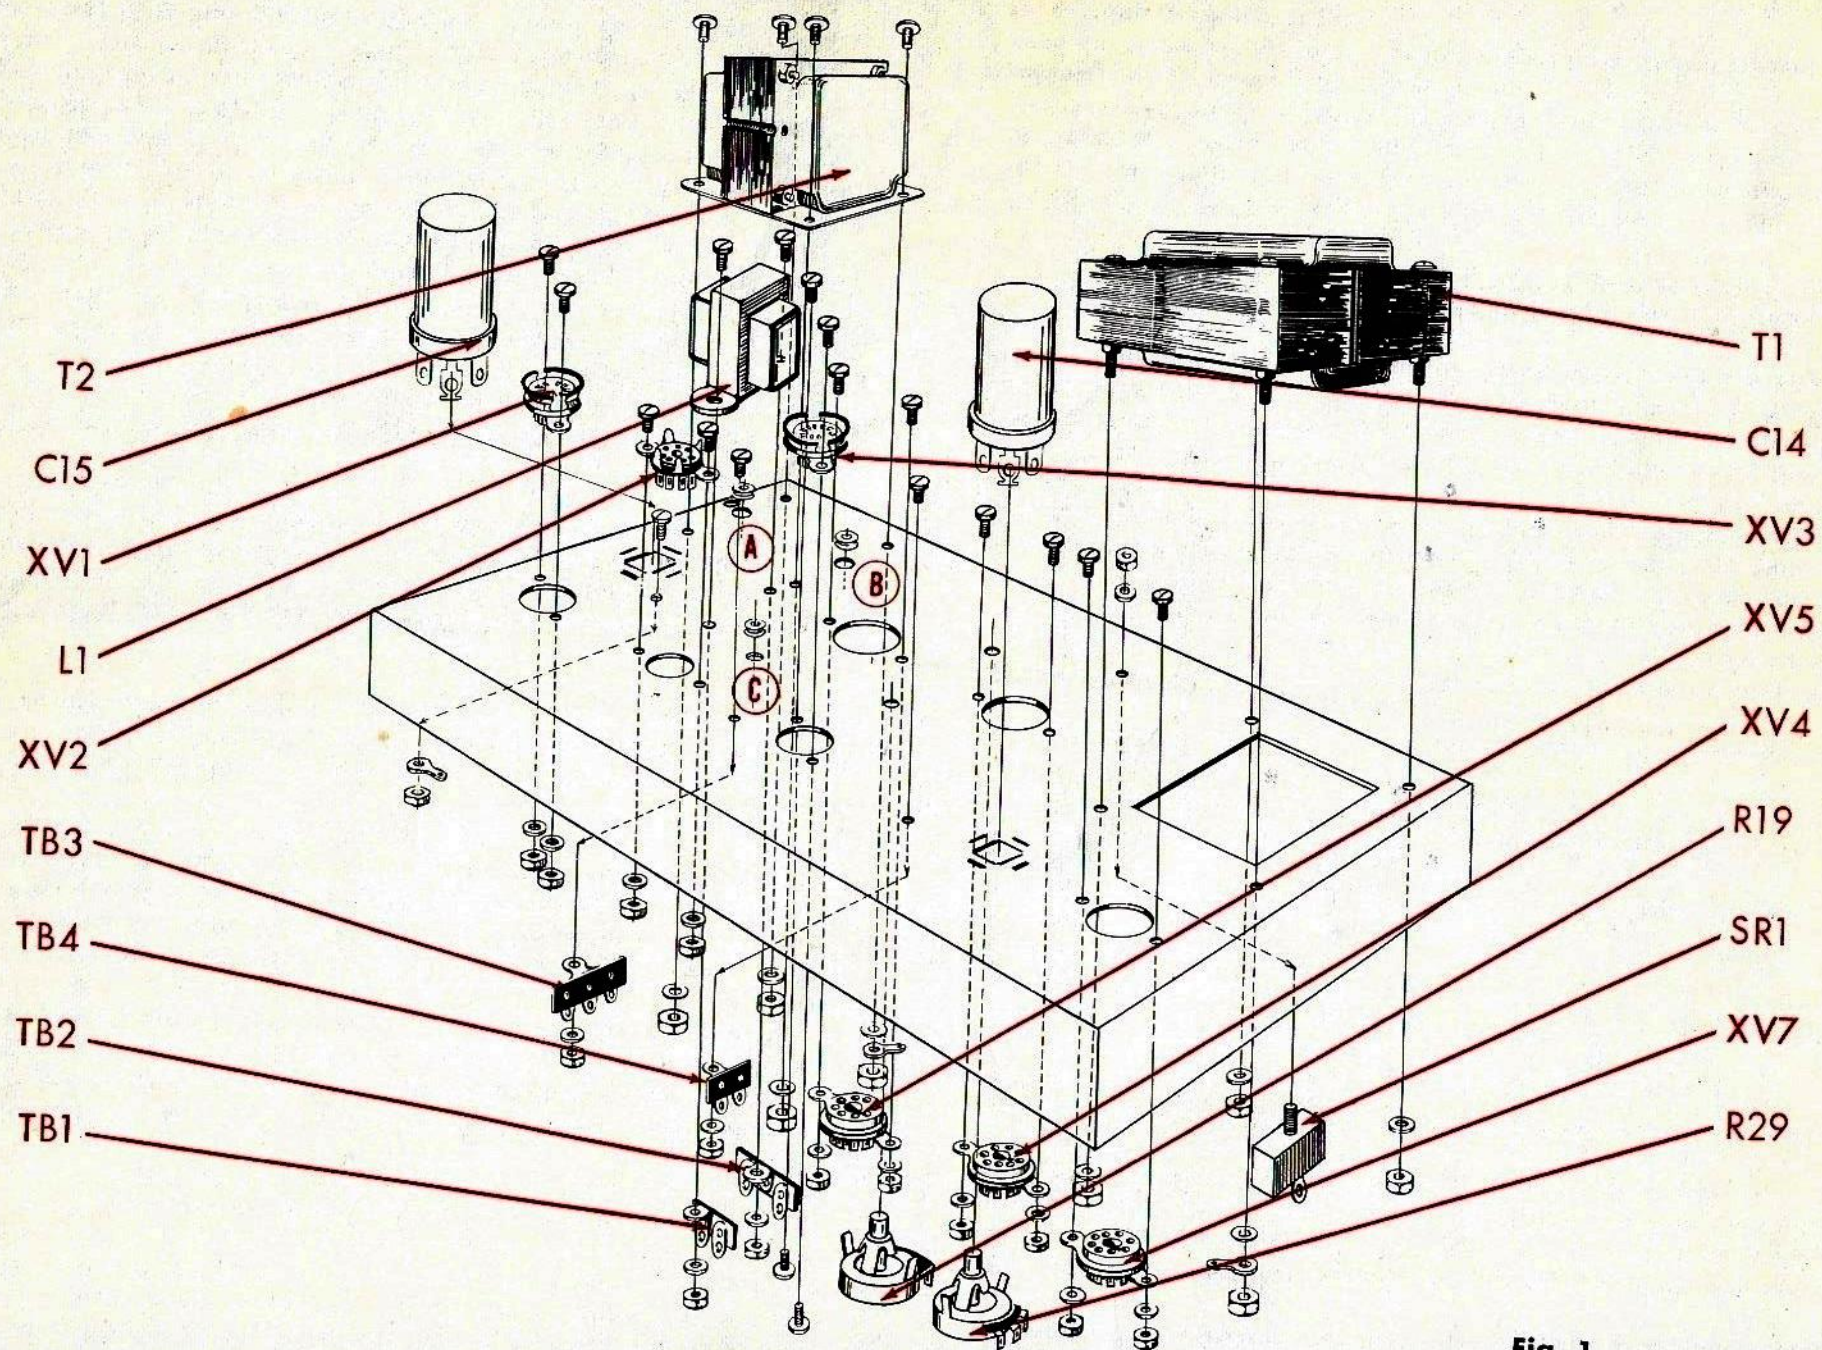
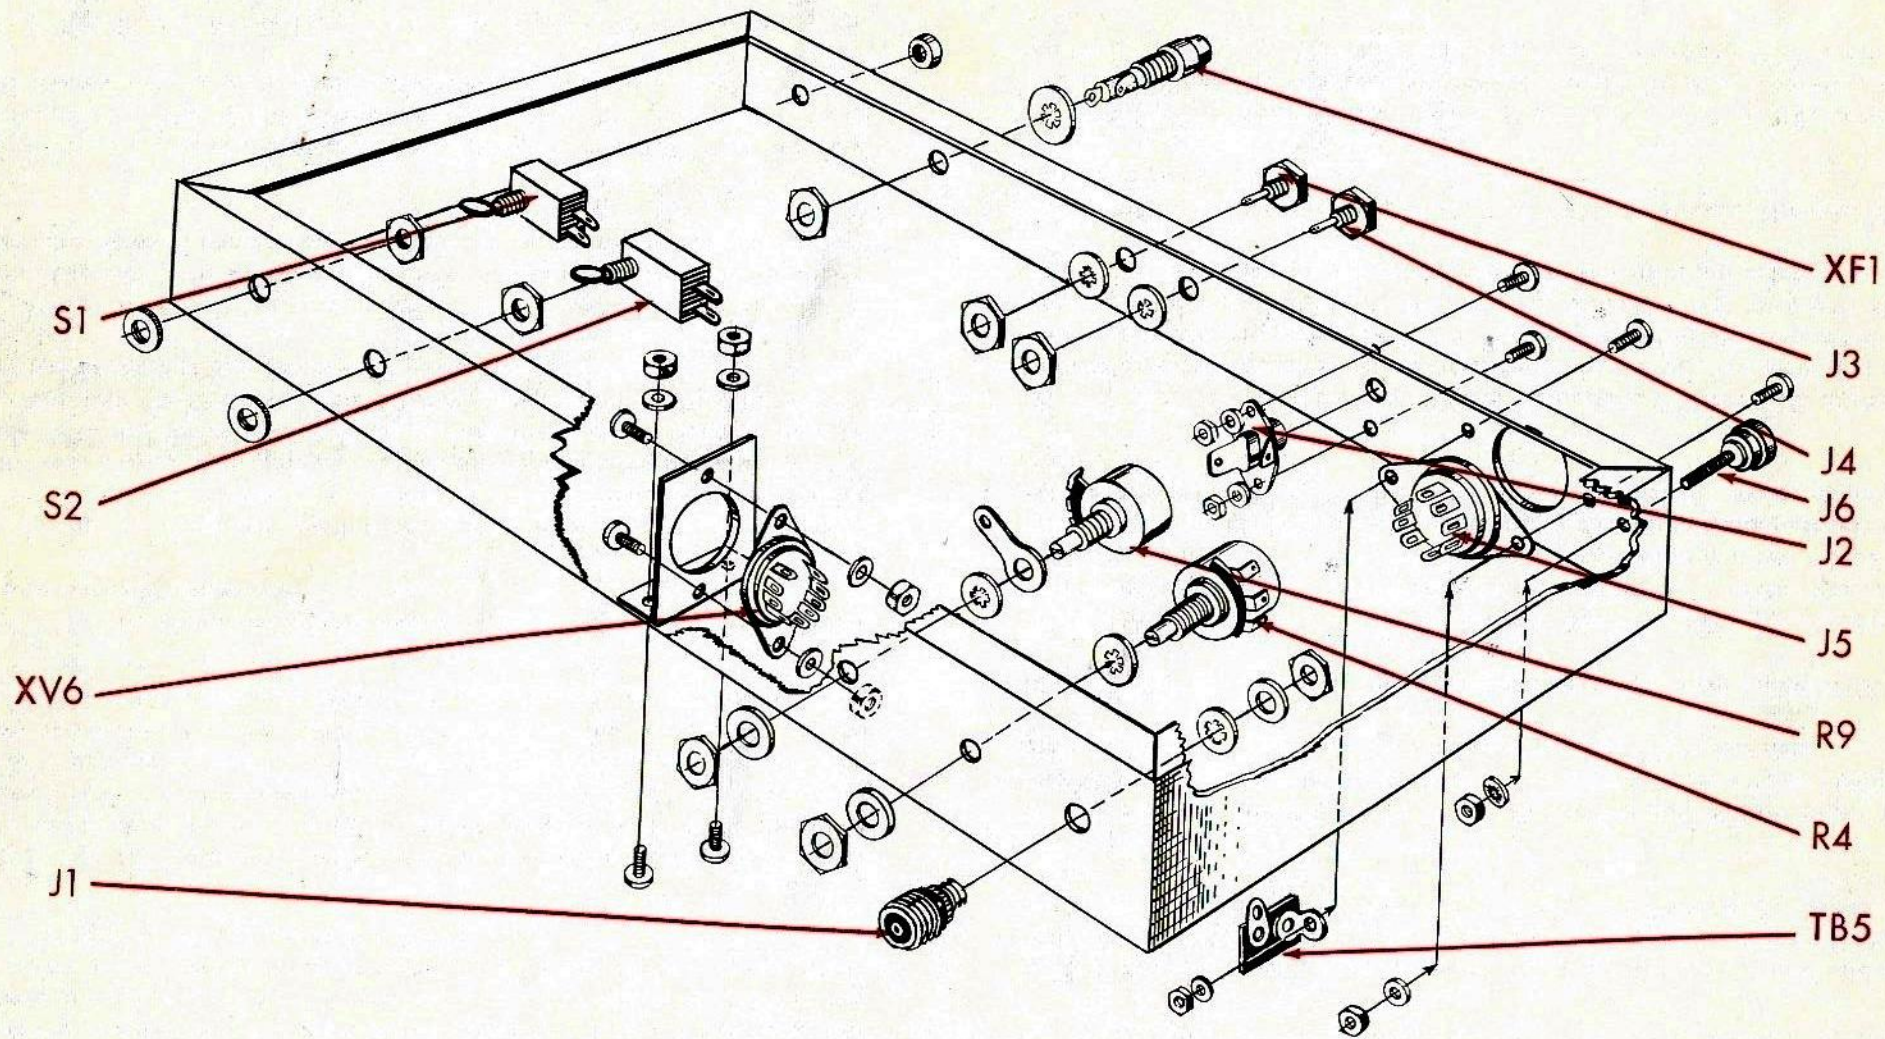
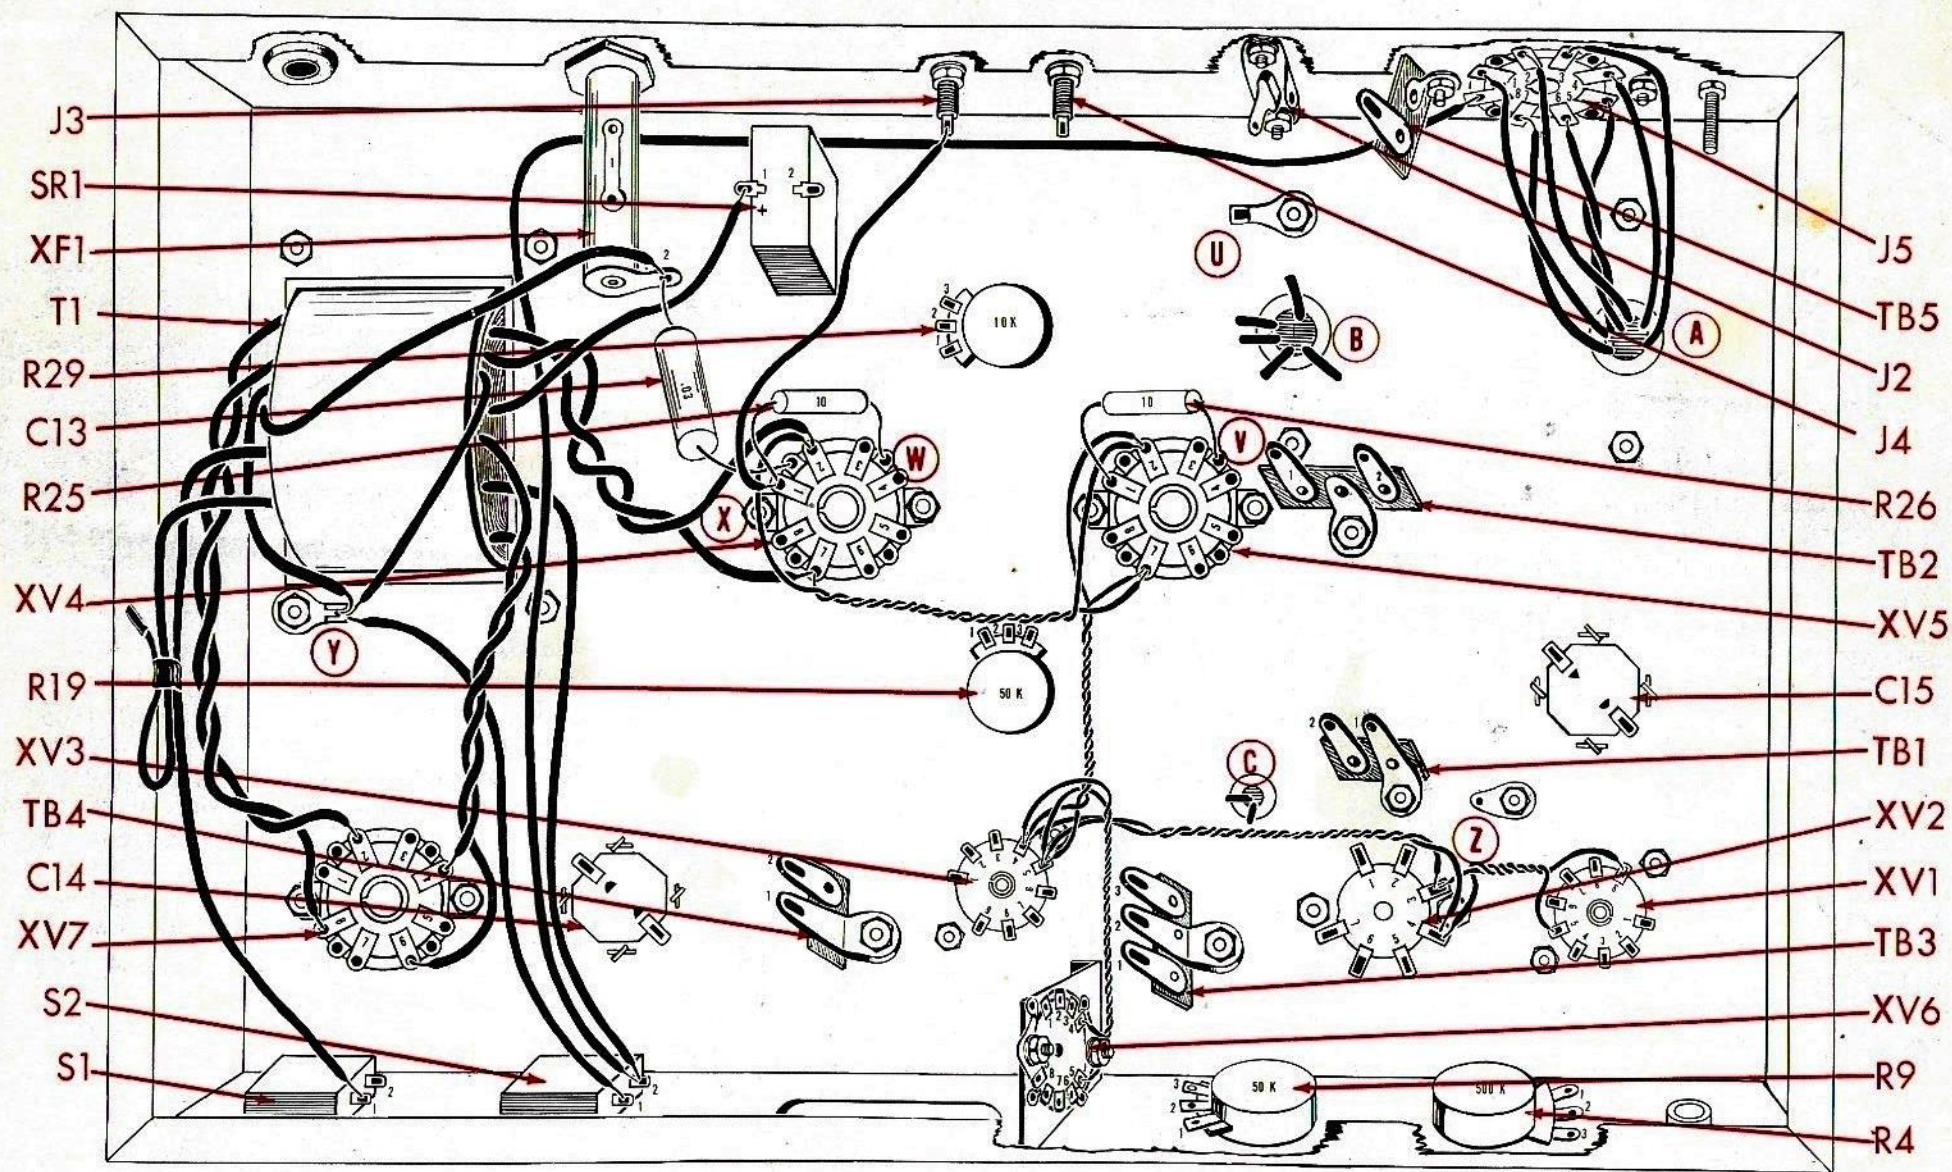

Fig. 1
Fig. 2
Fig. 3
1. ( ) Fig. 1. On power transformer T1, (30029), cut both yellow leads to 6", red leads to 5", the green leads to 3", the blue leads to 4", the black lead to 4 1/4", the black-green and the black-red to 6 1/2", the red-yellow to 4 3/4" and the white lead to 3". Mount the transformer as shown, with the yellow leads closest to the side of the chassis. Use four #8 lockwashers and four #8-32 hex nuts. Under one of the hex nuts mount a #8 ground lug.
2. ( ) Fig. 1. Mount one 5/8" grommet in hole "A" in the top of the chassis and a second 5/8" grommet in hole "B".
3. ( ) Fig. 1. On output transformer T2, cut the red lead to 8", the brown lead to 6" and all other leads to 3". Mount the transformer as shown, pushing the red, brown, blue, green and black leads through the grommet mounted in hole "B", and the remaining leads through the grommet mounted in hole "A". Use four #8-32 screws, four #8 lockwashers and four #8-32 hex nuts. Under one of the hex nuts mount a #8 ground lug.
4. ( ) Fig. 1. Mount selenium rectifier SR1, from below the chassis, as shown. Use one #6 lockwasher and one #6-32 hex nut. Orient the rectifier so that plus terminal (marked on rectifier) is closest to the power transformer, T1.
5. ( ) Fig. 1. Mount the octal sockets, XV4, XV5 and XV7, from below the chassis, as shown. Note orientation of center key from figure 3. Use two #6-32 screws, two #6 lockwashers and two #6-32 hex nuts on each.
6. ( ) Fig. 1. Mount the 10K snap-in type pot, R29, between tube sockets XV4 and XV5, towards the rear of the chassis, as shown. Push the pot into the center hole and the two tabs at the side into the two smaller outside holes. Press firmly against the pot towards the chassis until a click is heard and the pot is secured to the chassis. (see fig. 3 for location of lugs)
7. ( ) Fig. 1. Similar to the above, in step 6, mount the 50K snap in type pot, R19. This is located between sockets XV4 and XV5 towards the front of the chassis.
8. ( ) Fig. 1. Mount the nine pin miniature tube sockets with shield support, XV1 and XV3, from the top of the chassis, as shown. Note orientation in Fig. 3. Use two #4-40 screws, two #4 lockwashers and two #4-40 hex nuts on each.
9. ( ) Fig. 1. Mount the seven pin miniature tube socket, with shield support XV2, from the top of the chassis, as shown. Note orientation in Fig. 3. Use two #4-40 screws, two #4 lockwashers and two #4-40 hex nuts.
10. ( ) Fig. 1. Mount a 1/4" grommet in hole "C", near socket XV2.
11. ( ) Fig. 1. On choke L1, cut one lead to 3 1/2" and the second lead to 4". Push these leads through the grommet mounted in hole "C". Mount the choke as shown, using two #6-32 screws, two #6 lockwashers and two #6-32 hex nuts. Under one of the lockwashers, nearest XV2, mount a one post left with ground terminal strip, TB1. Under the second lockwasher, mount a two post terminal strip, TB2.
12. ( ) Fig. 1. Mount electrolytic can capacitors, C14 and C15, as shown. Note orientation of half moon and triangle in figure 3. The mounting taps are inserted into the slots provided on the chassis and twisted somewhat less than a quarter turn. DO NOT twist the taps excessively or they will shear off. Solder one mounting tab to the chassis at the mounting point.
13. ( ) Fig. 1. Mount ground lug "Z" near XV1, as shown. Use one #6-32 screw and one #6-32 hex nut.
14. ( ) Fig. 1. Mount two post with ground terminal strip, TB3 between XV2 and XV3 and on post right with ground terminal strip, TB4 between XV3 and C14. Use one #6-32 screw, one #6 lockwasher and one #6-32 hex nut on each.
1. ( ) Fig. 2. On the tube bracket, shown mounted, mount a nine pin miniature tube socket, XV6, as shown. Use two #4-40 screws, two #4 lockwashers and two #4-40 hex nuts.
2. ( ) Fig. 2. Mount the tube bracket, as shown. Use two #6-32 screws, two #6 lockwashers and two #6-32 hex nuts. Tighten these screws slightly, so that bracket can be adjusted after the tube is inserted in its socket.
3. ( ) Fig. 2. Mount 500K pot R4 and 50K pot, R9, as shown. Use one 3/8 lockwasher, one 3/8 flatwasher and one 3/8 hex nut on each. In addition, R9 gets a 3/8 ground lug mounted between the pot and the lockwasher. Orient the lug so that it is opposite R9-3.
4. ( ) Fig. 2. Mount the two SPST Toggle switches, S1 and S2, as shown. Use a hex nut inside the chassis and a round nut outside the chassis, on each. Adjust the hex nut so that only 1/16" of the screw threads can be seen from the front of the chassis, outside the round nut.
5. ( ) Fig. 2. Mount the mic input jack, J1, as shown. Use one 3/8 lockwasher, 3/8 flat fibre washer and one hex nut to secure jack to the chassis. Discard remaining hardware supplied with mic connector.
6. ( ) Fig. 2. Mount grounding terminal post, J6, as shown. Use one #8 lockwasher and one #8-32 hex nut.
7. ( ) Fig. 2. Mount octal socket J5, as shown. Note orientation in figure 3. Use two #6-32 screws, two #6 lockwashers and two #6-32 hex nuts. Under one of the lockwashers, mount a one post upright, right terminal strip, TB5.
8. ( ) Fig. 2. Mount phono jack, J2, as shown. Use two #4-40 screws, two #4 lockwashers and two #4-40 hex nuts.
9. ( ) Fig. 2. Mount test point pin jacks, J3 and J4, as shown. Use one fiber shoulder washer and one hex nut supplied with the jack, on each. Note that the shoulder washer fits through the hole so that the jack will not short to the side of the hole.
10. ( ) Fig. 2. Mount the fuseholder, XF1, as shown. Use a rubber washer against the outside of the chassis under the wider part of the holder. Slide the large nut over the fuseholder on the inside of the chassis. DO NOT tighten nut too much or holder will crack.
11. ( ) Fig. 2. Mount a 3/8 grommet in the remaining hole next to the fuseholder.
1. ( ) Fig. 3. From power transformer T1, twist the two yellow leads and run along the chassis, as shown. Connect one lead to XV7-8 (C) and the second lead to XV7-2 (S1).
2. ( ) Fig. 3. From power transformer T1, connect the white lead and one blue lead to ground lug "Y" (C).
3. ( ) Fig. 3. Connect a 5" piece of heavy yellow wire from ground lug "Y" (S3) to S2-1 (S1).
4. ( ) Fig. 3. Connect one end of a 15" piece of heavy yellow wire to S2-2 (C). Run along the chassis as shown. Connect the other end to J5-8 (S1).
5. ( ) Fig. 3. Connect the red-yellow lead from power transformer T1 to S2-2 (S2).